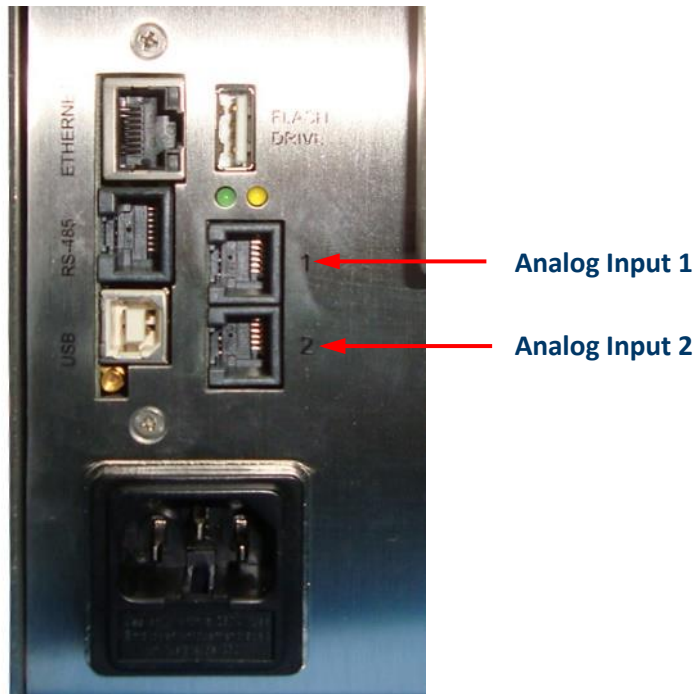

Figure 6-5 Analog Channel Connectors
9. If analog sensor were ordered, plug them into the connectors labelled 1 or 2 on rear of the instrument. See Figure 6-5.
- START/STOP:** Press START button on the screen to start counting. When running, the instrument will display "COUNTING" in the lower right corner of the screen as shown in Figure 6-5. Press the STOP button to stop counting; the word "STOPPED" will display.